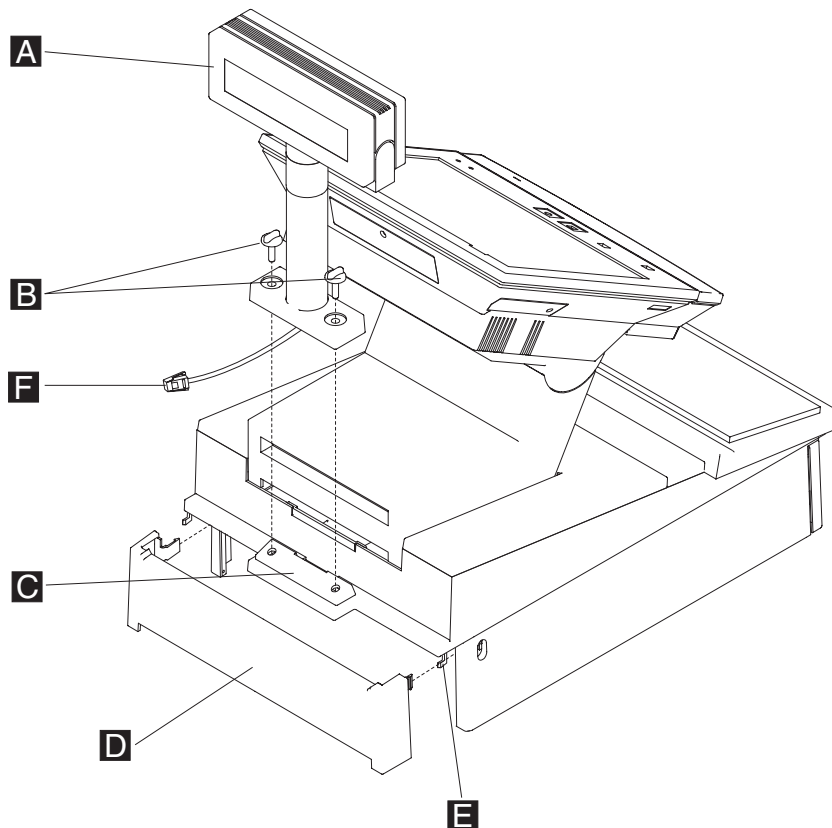

Figure 100. Installing the distributed character display onto the keyboard integration tray
- a. Route the character display cable through the hole behind mounting post **C** as show in Figure 100. You may need to lay the display on its side to connect the display cable to the system unit rear connector panel.
- c. Attach the distributed character display **A** to the cash drawer mounting post **C** with two thumbscrews **B** and snap the entire unit into place at the rear of the tray, as show in Figure 100.